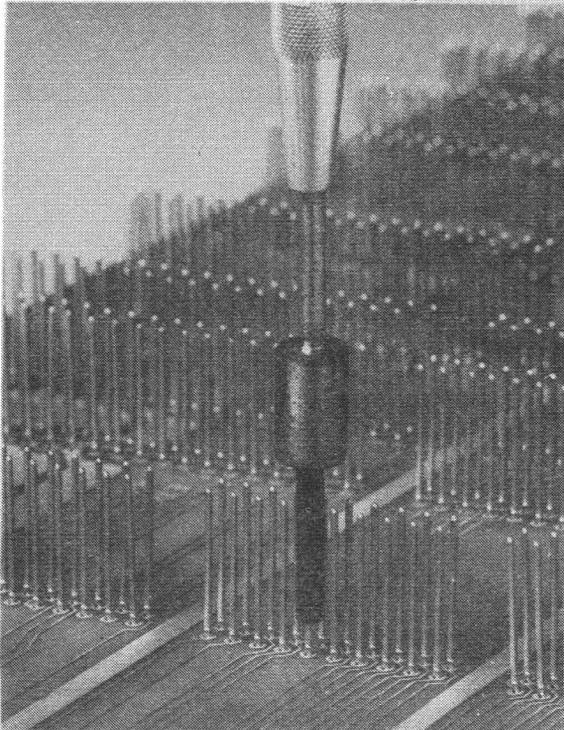

FIGURE 5
- 5.21 To remove a pin that is broken or too badly bent to straighten properly, insert the barrel of the R-4761 removal tool over the nonshouldered end of the pin as shown in Figure 5. There will be approximately 1/4 inch between the bottom of the barrel and the backplane.